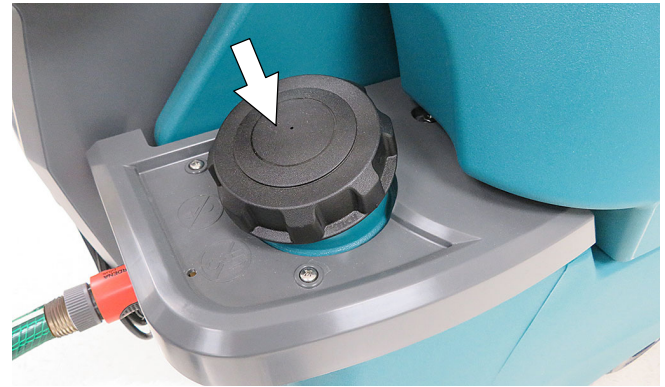

FIG. 25
3. Before filling the solution tank with the auto-fill option make sure the solution tank cap is securely in place (Figure 25).